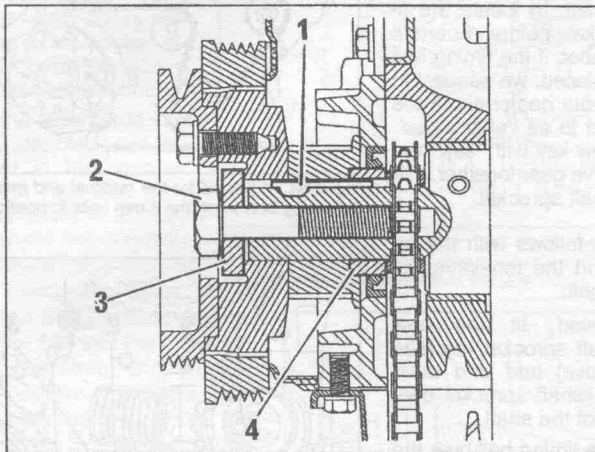

Fig. 1.58. Sectional view of the crankshaft front end with the special key.
- The remaining operations are carried out in reverse order to the removal procedure. The crankshaft pulley is fitted with a new washer. Coat the bolt with "Loctite" and tighten it to 7.0 kgm (50.5 ft.lb.). From this position tighten the bolt a further 60° (one quarter of a turn, plus half of the next quarter of a turn). The drive belt is tensioned as described in the relevant section. Fig. 1.58 shows a sectional view of the front end of the crankshaft when the special key is used.